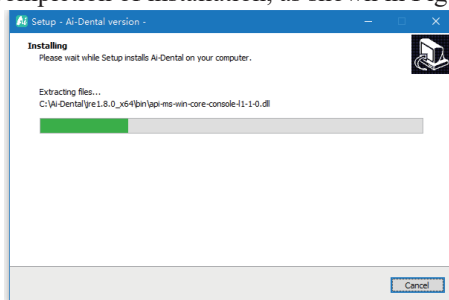

Figure 9
h) After the “Install” button is clicked, the program starts to install. The user just waits for the completion of installation, as shown in Figure 9: